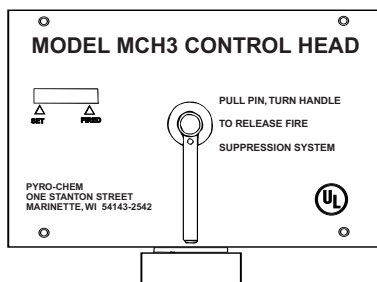

Figure 2-4. Mechanical Control Head.
The Model MCH3 mechanical control head is a fully mechanical control head which can be connected to the PCL-160/300/460/600 cylinder valve. This control head will support a fusible link detection system, a remote mechanical pull station (Model RPS-M), and a mechanical or electric gas shut-off valve. A micro electric switch (Model MS-SPDT, MS-DPDT, MS-3PDT, or MS-4PDT) can be ordered separately and field installed. It is equipped with a local manual control handle that allows for mechanical system actuation. Operation of the local manual control requires removing the pull pin and rotating the handle clockwise. The Model MCH3 control head can actuate a maximum of five (5) cylinders with the 16 gram CO₂ cartridge. See **Figure 2-4**.